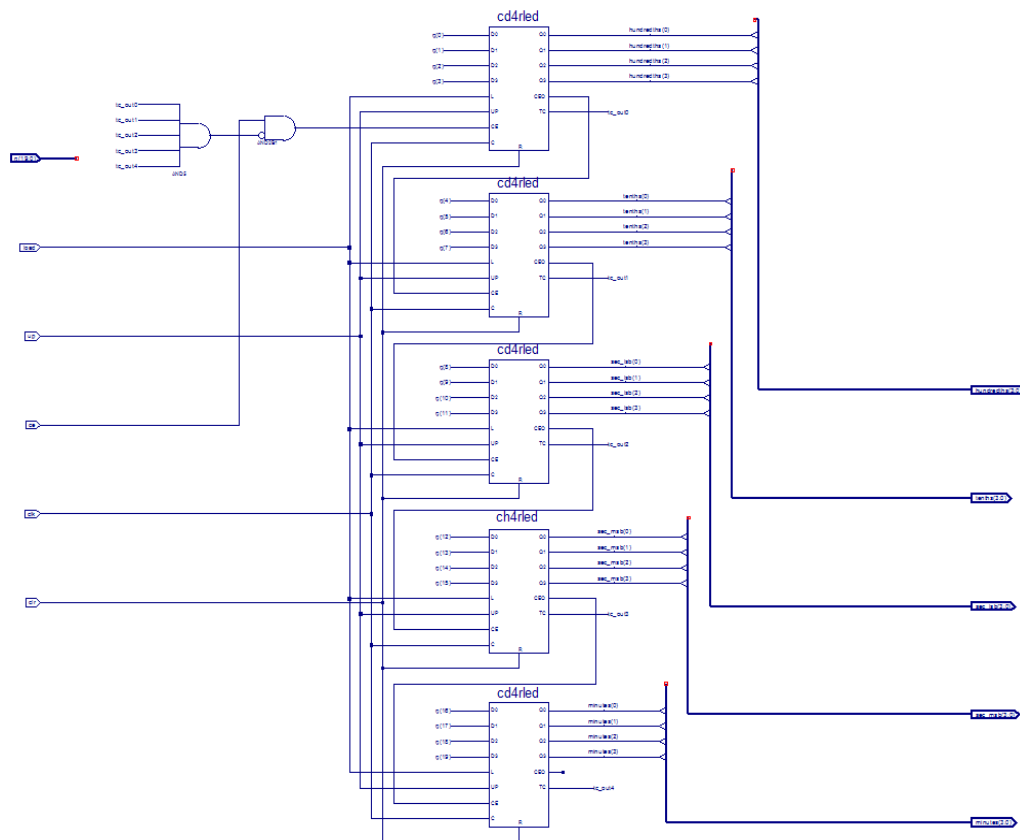

Figure 3-15: Completed time_cnt Schematic
8. Compare your `time_cnt` schematic with Figure 3-15 to ensure that all connections are made properly.
5. Click successively on each of the nets connected to data inputs, starting from the top so that the net named `q(0)` is attached to the D0 pin of the top counter and the net named `q(19)` is attached to the D3 pin of the bottom counter. Refer to Figure 3-15.